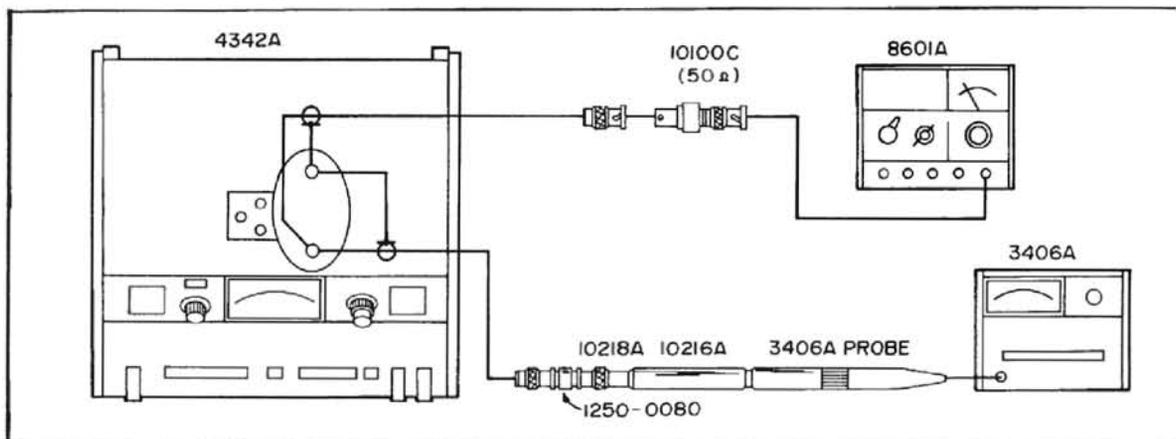

Figure 5-8. Frequency Response Adjustment
- Connect the RF Oscillator and the RF Voltmeter (with known frequency flatness), as shown in Figure 5-8.